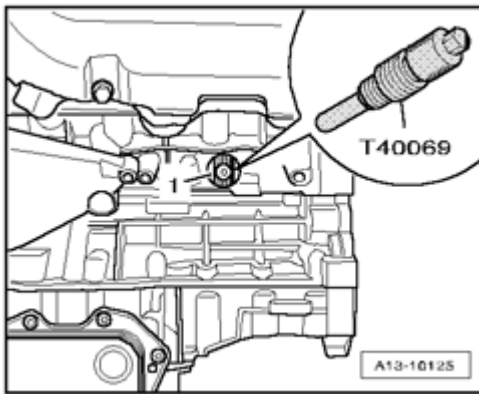

Fig. 536: Secondary Air Injection (AIR), Component Overview
- Installed location: As shown in **Fig. 536**, - arrow - points in direction of flow